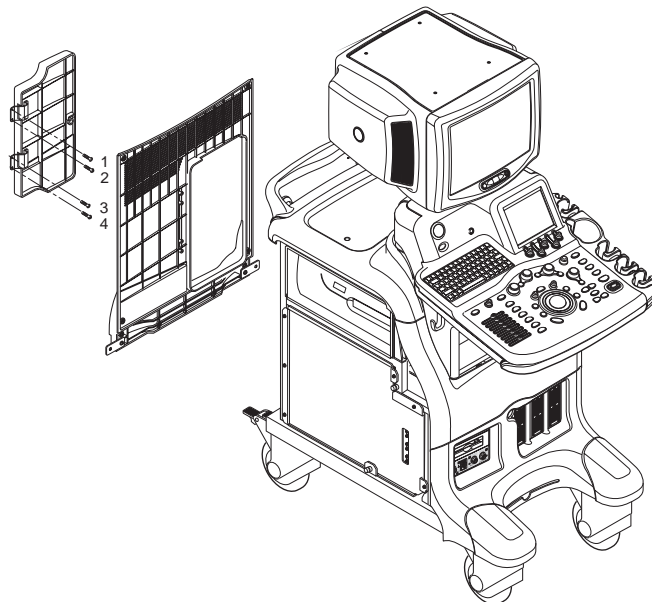

Figure 8-51 Removing the Rear Door Cover
- 4.) Unscrew four screws (1-4). Refer to Figure 8-51.